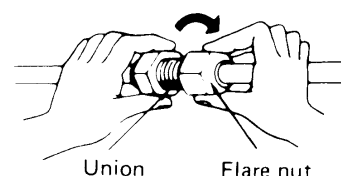

Fig. 24
- For proper connection, hold the tube with union and the flared tube straight with each other, screw in the flare nut lightly at first to obtain smooth match. Fig. 24